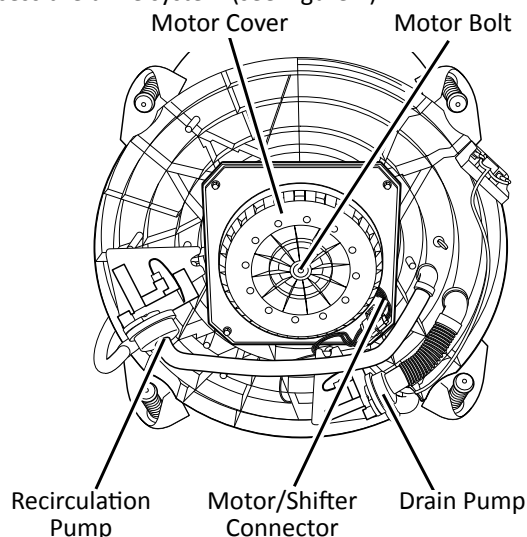

Figure 1 - Drive Area, Viewed From Bottom, Sound Pad (if equipped) Removed
9. Tilt washer back and remove sound pad (if equipped) to access the drive system (see Figure 1).